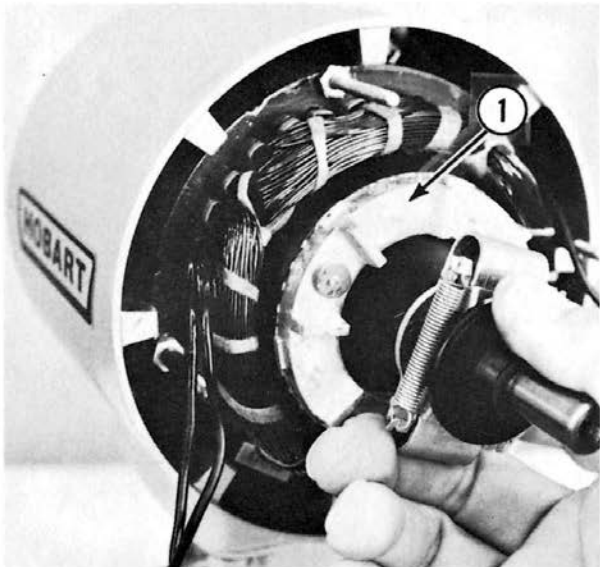

Fig. 4-3
- E. Remove the rotor (1, Fig. 4-3) from the rear of the field ring.